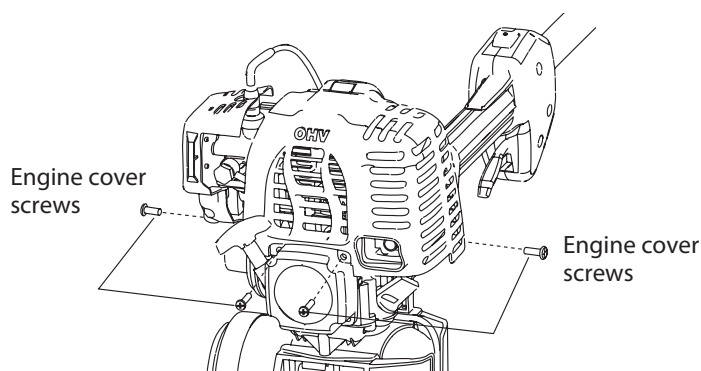

Fig. 26
1. Remove the four screws on the engine cover with a phillips head screw driver (Fig. 26).